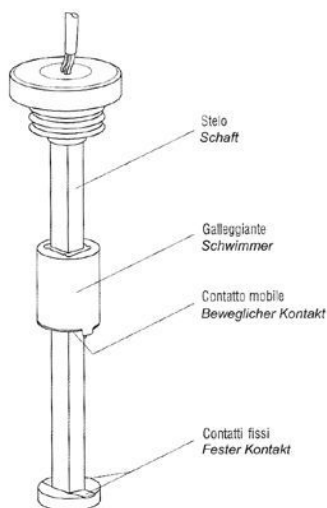

Fig. 4
*Figure 4 shows the components of an electromechanical level gauge.*